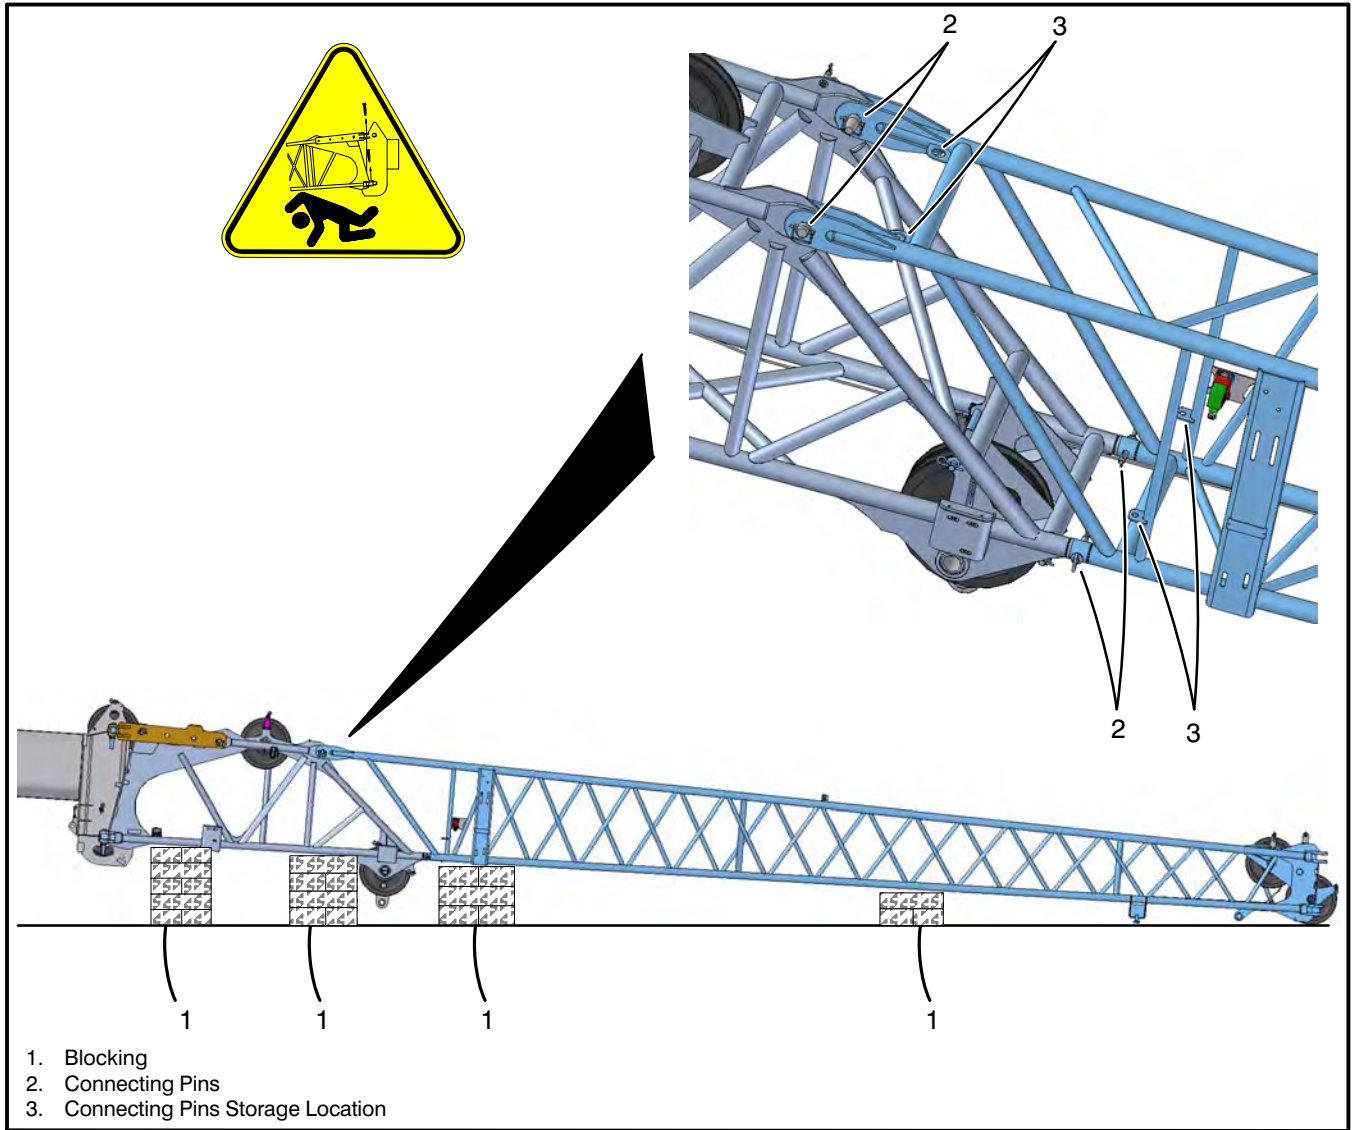

Figure 4–64
4. Check that the offset connecting pins are installed in the 2° offset position. Refer to Figure 4–71. If necessary change the fly offset to the 2° position. Refer to “Changing The Fly Offset Angle” in this Section of this Operator’s Manual for detailed instructions.
5. Pin the 10 ft (3.0m) fly section and 28 ft (8.5m) fly section together on secure blocking. Refer to Figure 4–64. The 28 ft (8.5m) fly section weighs approximately 995 lb (451kg) and the 10 ft (3.0m) fly section approximately 1,025 lb (465kg).